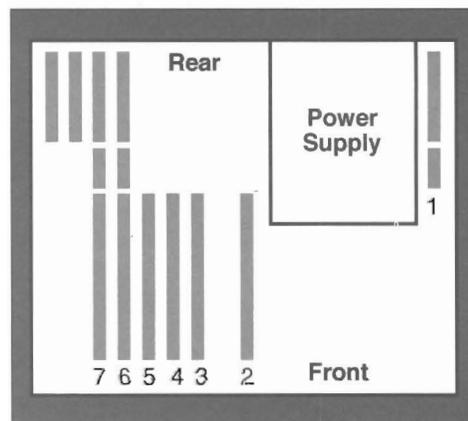

Figure 1.
- 1 Determine the best choice of expansion slots for the SCSI/serial cable run and the Flyer in your computer. See Figure 1 for your options.
See Figure 1.
If you are using NewTek's SCSI accessory cable, make sure you hold the cable correctly before inserting the connectors (the metal tab sticking out of the molded plastic block should aim toward the motherboard expansions slots). It helps to fold the strain relief tabs over the exposed wiring as you tuck each connector through the Amiga slot. See Figure 1.